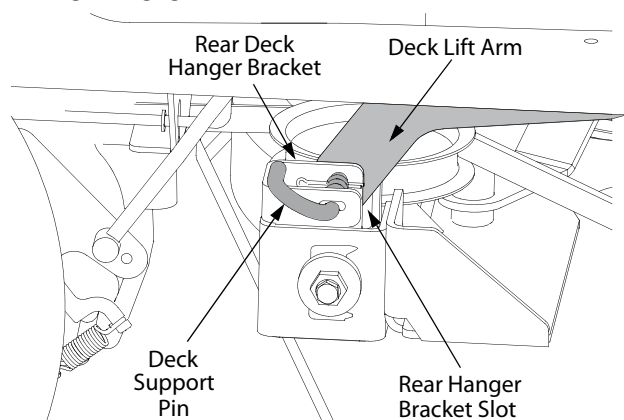

Figure 7-4
- Locate the LH and RH deck support pins on each side of the deck. Pull the deck support pins outward and lock in the disengaged position to release the deck from the tractor's LH and RH deck lift arms. Refer to Figure 7-4.
- Raise the deck lift arms out of the rear hanger bracket slots by raising the deck lift handle on the tractor to its highest position. Refer to Figure 7-4.
- Maneuver the deck so that the slots in the two rear deck hanger brackets approximately align with the deck lift arms of the tractor. Refer to Figure 7-4.
- Pull the deck support pins outward and maneuver the deck as necessary to align the holes in the deck lift arms with the pins. Refer to Figure 7-4.